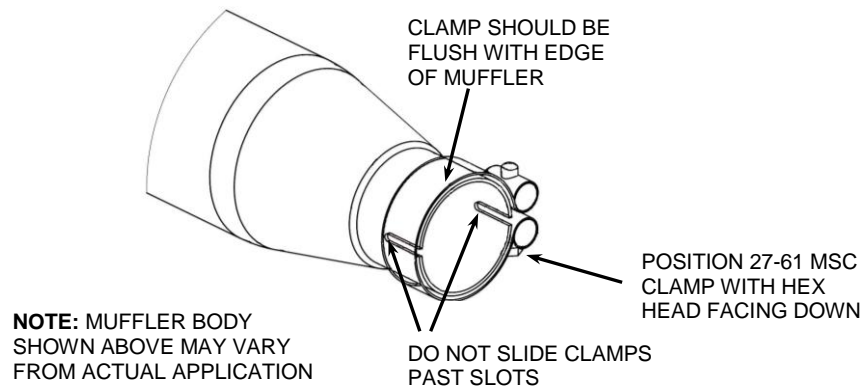

FIGURE 3
11. Position the supplied #27-61 MSC muffler clamp with hex head facing the direction shown in **FIGURE 3** and slide onto the rear muffler inlet tube.
13. Secure the muffler assembly to the exhaust mount bracket using the (2) supplied 5/16"-18 bolts but **DO NOT TIGHTEN**.
14. Make sure the rear muffler assembly and front headpipe are straight and parallel and tighten in the following order; headpipe flanges to the cylinders (slowly tightening opposing nuts), muffler assembly to the exhaust mount and finally the muffler clamp. (NOTE: The muffler clamps should be flush with the end of the muffler inlet when tightened. See **FIGURE 3**. If the muffler clamp is slid past the slots on the muffler inlet the clamp will not tighten properly).
16. Install the front heatshield. Slide the rear portion of the heatshield forward over the muffler while gently pushing the front of the heatshield into place between the frame and motor (NOTE: Spread the hose clamps apart slightly to make it easier to slide them over the muffler assembly and headpipes.) Make sure the muffler clamp does not interfere with the heatshield and is aligned as shown in **FIGURE 3**.